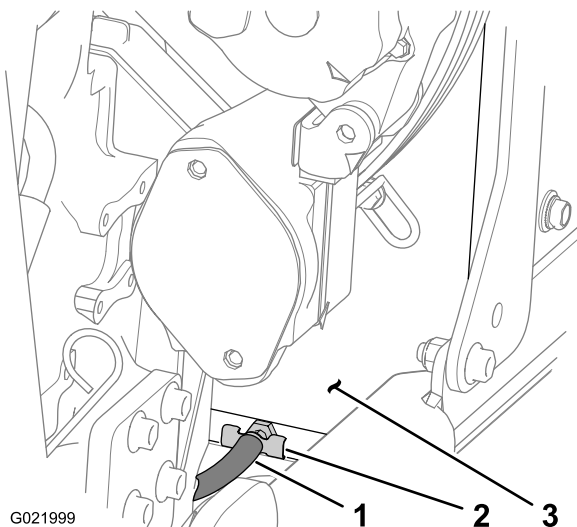

Figure 80
- Place a drain pan with a minimum capacity of 20 L (5.3 gallons) under the open end of the drain hose (Figure 80).
5. Close the drain valve (Figure 80).
- F. Open the drain valve and drain the cleaning solution into a drain pan (Figure 80).
- E. Open the drain valve (Figure 80) and drain the water into a drain pan.